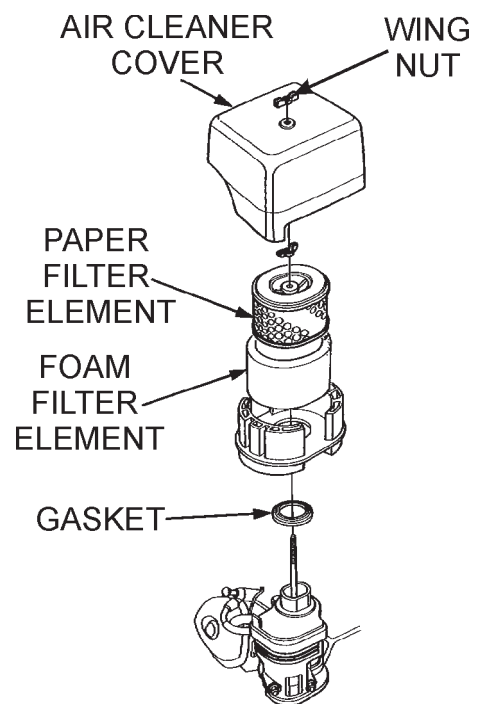

Figure 25. Engine Air Cleaner
- Remove the air cleaner cover and foam filter element as shown in Figure 25.
- Tap the paper filter element (Figure 25) several times on a hard surface to remove dirt, or blow compressed air [not exceeding 30 psi (207 kPa, 2.1 kgf/cm²)] through the filter element from the air cleaner case side. **NEVER** brush off dirt. Brushing will force dirt into the fibers. Replace the paper filter element if it is excessively dirty.